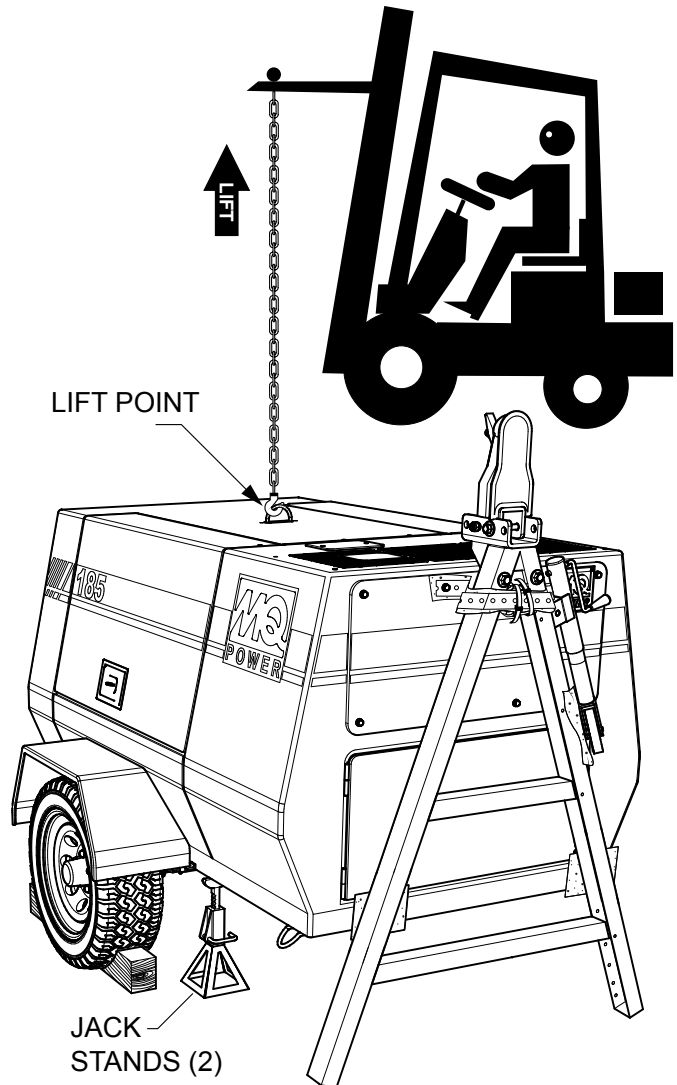

Figure 3. Raising Air Compressor
1. Attach one end of a lifting strap or chain (Figure 3) around the lifting point on top of the air compressor. Attach the other end of the lifting strap or chain to the lifting device.
2. Next, place the air compressor on heavy duty jack stands (2) as shown in Figure 3.